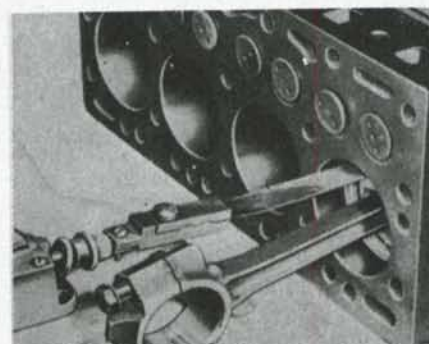

Fig. AC39—Model G aluminum pistons are correctly fitted when 10-15 pounds pull is required to withdraw the .0015 feeler gage.
92. Aluminum alloy pistons are cam ground, and are provided with a .002 to .007 relief adjacent to both ends of the piston pin. Repair pistons are available in standard and in oversizes of .0035, .020, and .040. The recommended .002 skirt to cylinder clearance, is measured with a 1/2 inch feeler blade of .0015 thickness, which should require 10 to 15 lbs. pull to withdraw. Feeler should be inserted between skirt and cylinder block at right angles to the piston pin, with piston in upside down position as shown in Fig. AC39. Piston sizes are stamped on top of each piston.